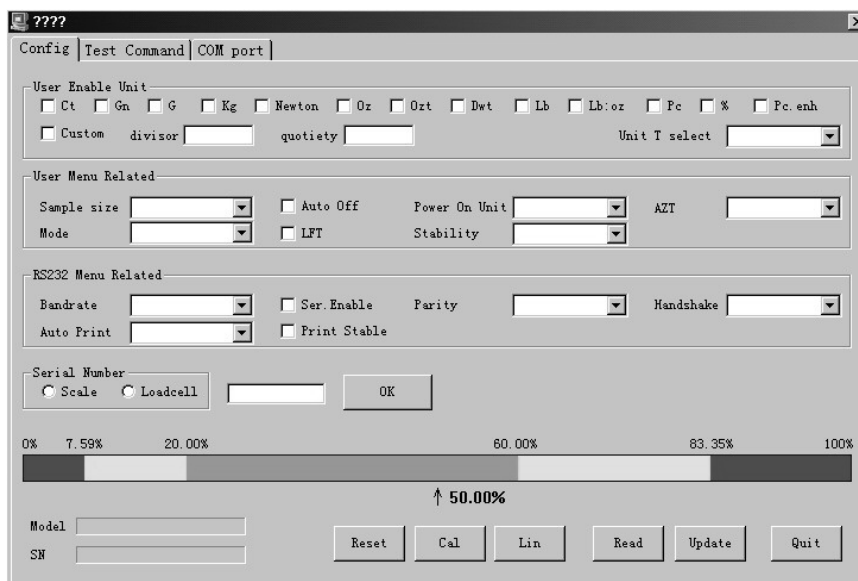

Figure A-4.
1. Open ConfigTool.exe, you will see the screen shown in Figure A-4 after the communications parameters have been checked. If the communications parameters are not matched, or, there is no balance connected, error messages will appear. If a balance is connected, it will be read automatically and the data will appear.